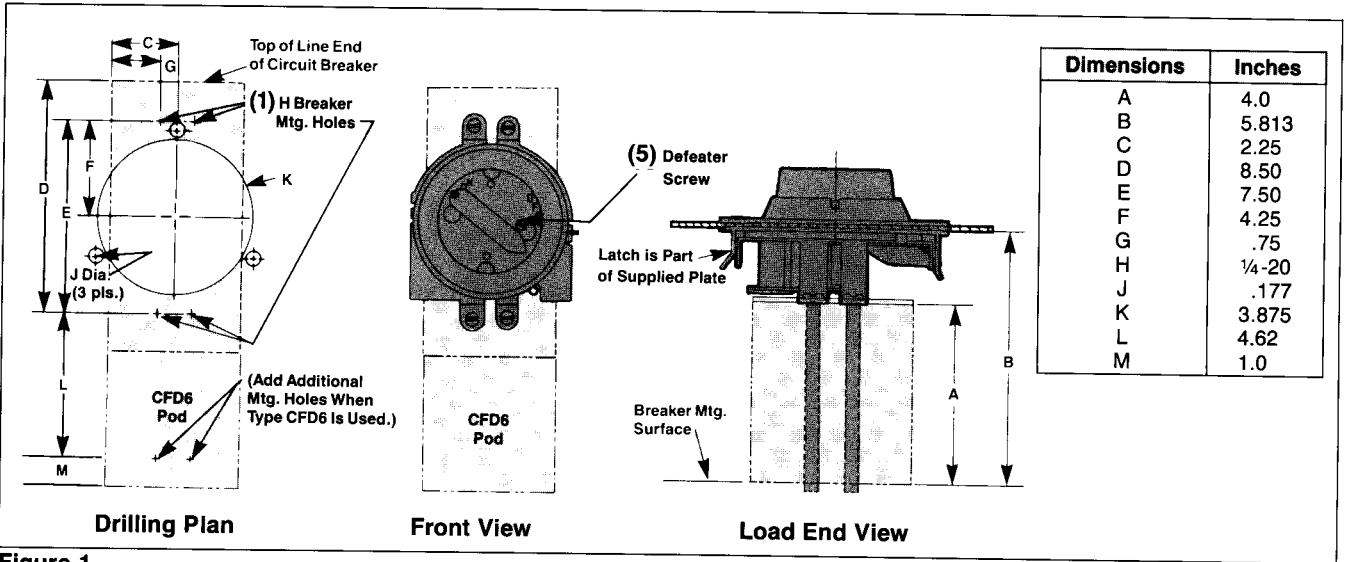

Figure 1
- D. Close the enclosure door and adjust external ring on door so it is concentric with handle ring. Tighten the three screws (4).
- E. Check the door operation. Latch on mechanism should engage latch tab (3) interior ring when breaker is ON and disengage latch tab when handle is rotated to OPEN DOOR position. Repeat Step C if a slight adjustment is necessary.
- F. Enclosure door may be opened when breaker is ON by turning defeater screw (5) on rotary handle face plate (Figure 1) in a clockwise direction.